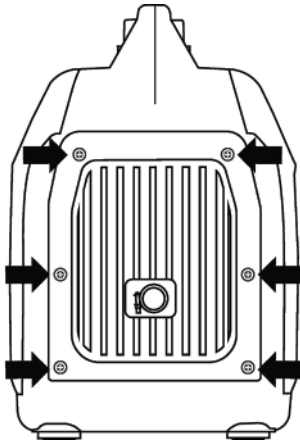

Figure 21: Remove screws holding muffler cover
3. Remove the screws holding the muffler cover in place (see Figure 21).